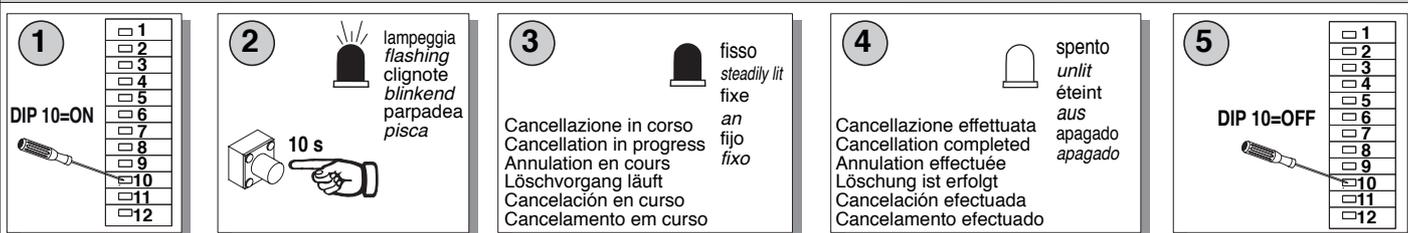

Fig.3
5.3) PROGRAMMATION DE LA ZONE (Fig. 3)